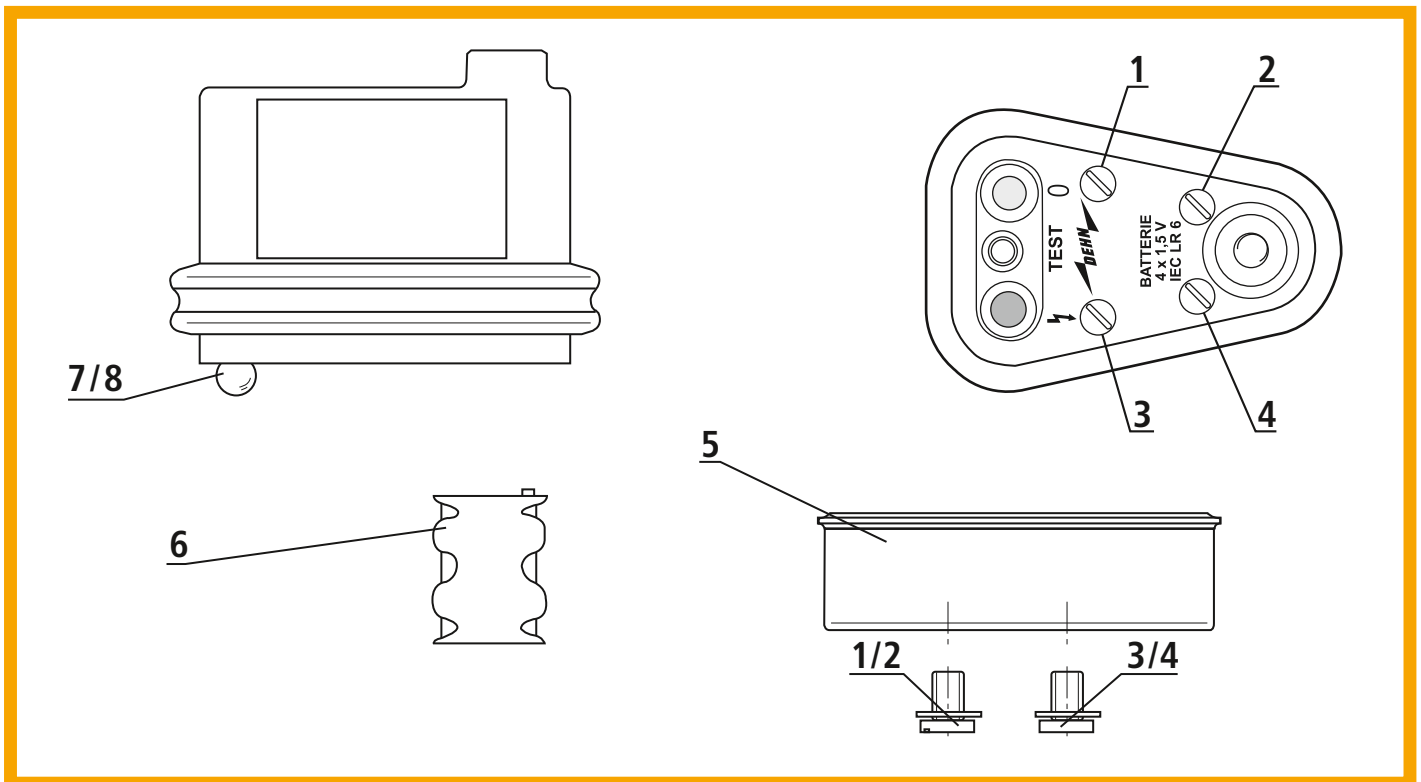

Fig. 6
6.1 Changing the battery (see Fig. 6)
6.2 Changing the lamp (see Fig. 6)